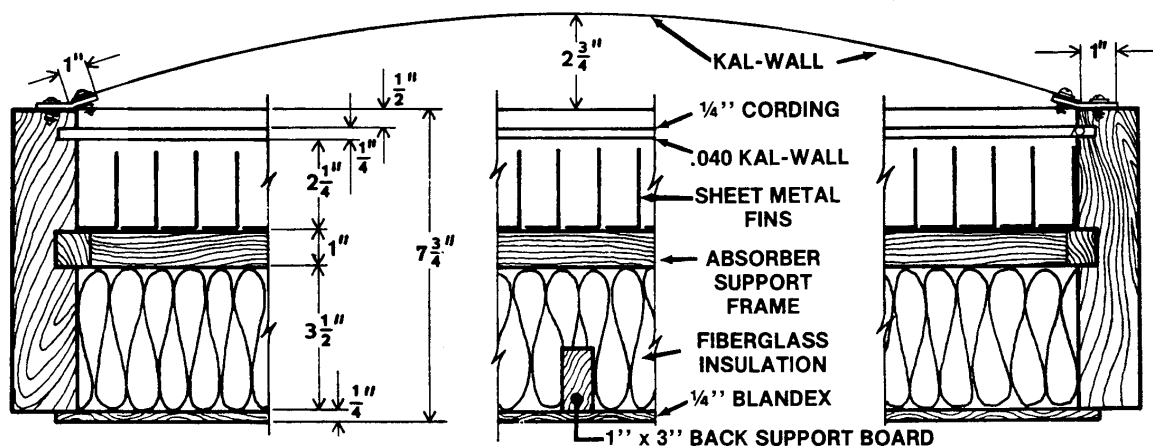

FIGURE 2 — CROSS-SECTION OF AIR COLLECTOR
3. Cut grooves in the 2 x 8's as shown on Figure 2. The 1/4" wide groove accommodates the inner cover plate and the 1" wide groove houses the absorber backing frame. All grooves are 1/2" deep.
4. Cut a 1" x 3" board to 95 inches. This serves to support the back chipboard (Blandex) panel (Figure 2).
absorber unit. Mark off 47 - 1" spaces along the 1" x 1" angles. Use ½" - #6 sheet metal screws, inserted from the bottom, to attach the fins. The last two fins are attached by reversing one to lap over the other (Figure 2). This provides for sheet metal against the collector frame on each side.